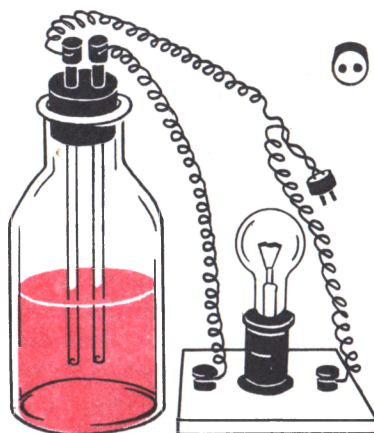

Fig. 1.2 Testing liquids for electrical conductivity
ionic bonds. The apparatus shown in Fig. 1.2 is used for the purpose.
4. Using the apparatus shown in Fig. 1.2 establish if (a) distilled
5. Using the apparatus shown in Fig. 1.2, detect soluble salts in soil taken from a flower pot.